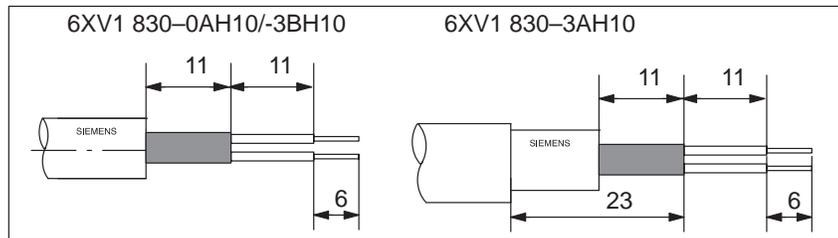

Figure 5-6 Length of stripped ends for connection to bus connector (6ES5 ...)
1. Strip the ends of the cable conductors as shown in Fig. 5-6.